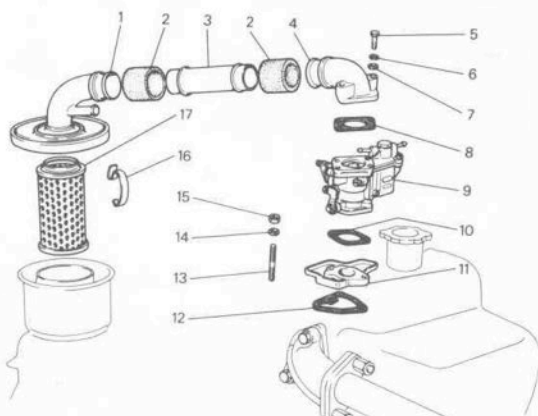

FIG 2:8 Air cleaner components
**Key to Fig 2:8** 1 Cover 2 Connectors 3 Intake pipe 4 Elbow 5 Bolt 6 Lockwasher 7 Flat washer 8 Gasket 9 Carburettor 10 Gasket 11 Insulator 12 Gasket 13 Stud 14 Flat washer 15 Nut 16 Clip for cover 17 Element